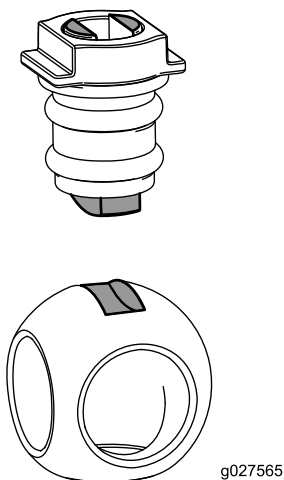

Figure 7
10. Insert the ball into the valve body (Figure 7).